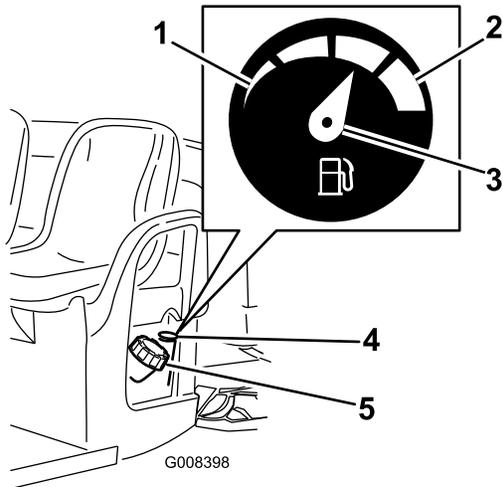

Figure 17
4. Clean the area around the fuel-tank cap (Figure 17).